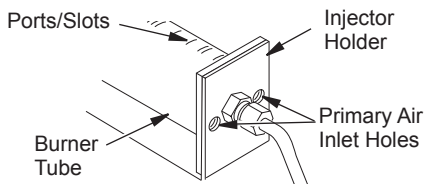

Figure 40 - Injector Holder On Outlet Burner Tube
2. Inspect burner, pilot and primary air inlet holes on injector holder for dust and dirt (see Figure 40, page 25).